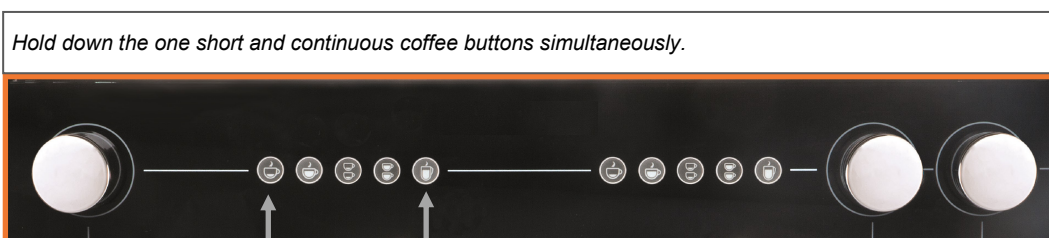

Figure 1.
3. Simultaneously Hold down the buttons for one short coffee and a continuous coffee from group 1 (left), see figure 1.